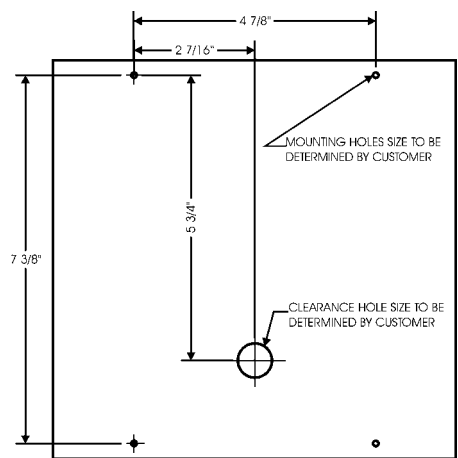

FIGURE 1. Holes Location
1. Position the reader (item b in the Parts List) at the desired location. Observe ADA height requirements. Drill four holes for the screws or anchors, and drill one clearance hole for the cable (see Figure 1). The installer determines the size of mounting holes and cable clearance hole.
3. Hold the open clamp (Figure 1) at a place where the three wires are accessible.